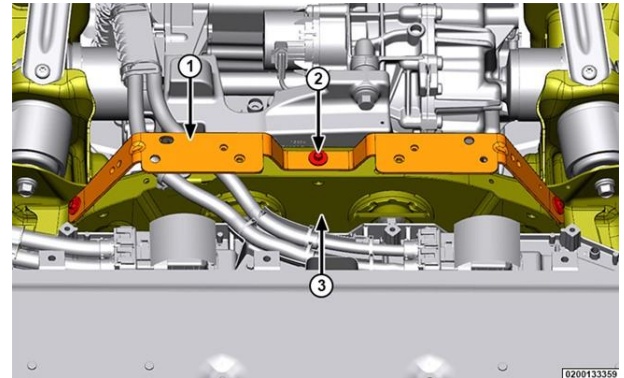

Figure 16 – Rear Cradle Bracket
36. Remove the three bolts securing the rear cradle bracket then remove the rear cradle bracket (Figure 16).